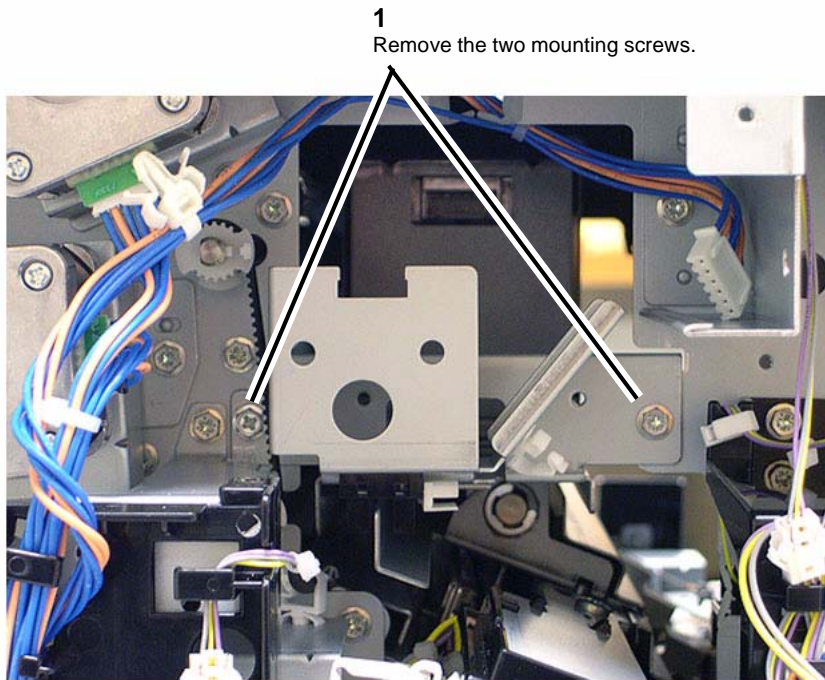

Figure 3 Removing the two Mounting Screws
7. Remove the two rear Punch Frame Assembly mounting screws (Figure 3).